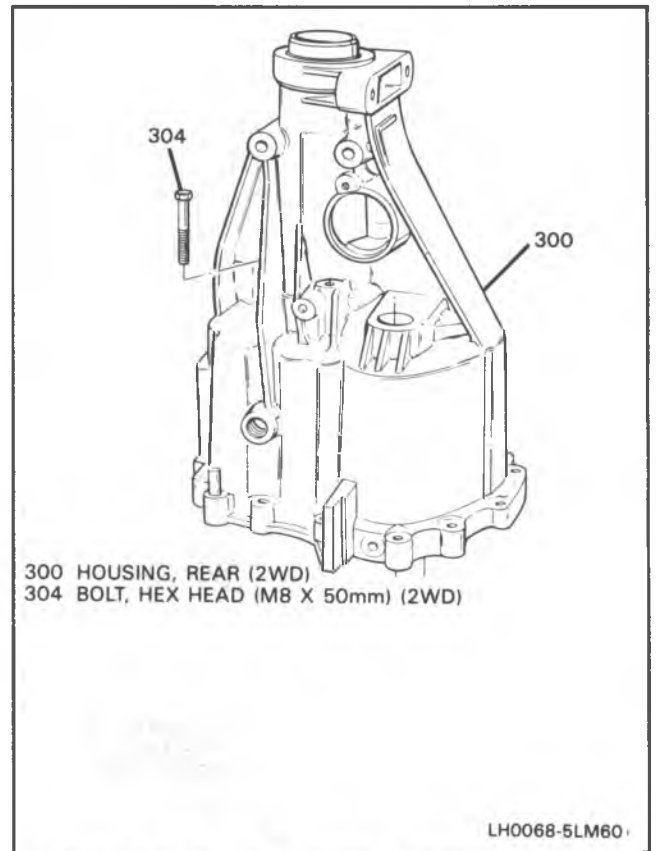

Figure 66 2WD Rear Bearing Retainer Bolts Install
- Bring housing straight down. If resistance is felt at about 7 mm (1/4 in.) then the rollers are (203) cocked. Repeat above procedures to install. **DO NOT FORCE HOUSING DOWN.**
13. 2WD Bolts (304) and (305) (Figure 66).